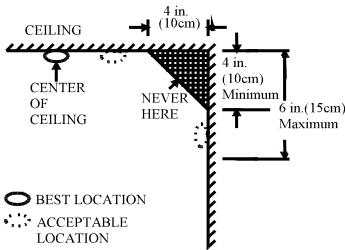
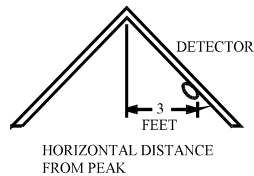

Figure 3: Recommendations for best and acceptable installation locations for installing smoke & heat detectors.
Figure 4: Recommended installation location for smoke & heat detectors in rooms with sloped ceilings or gables (slope >20 degrees).
- Install smoke & heat detectors as close as possible to the center of the ceiling. If it is not practical, install the detector no closer than 30cm to walls or corners (*see Figure 3*).
- If installing on the ceiling is not possible and state and local authorities allow the installation of the detectors on walls, assemble them on walls at a distance of 30cm – 50cm from the ceiling (*see Figure 3*).
- If your home has a sloped ceiling or gables, try to install the detectors 90cm from the highest point of the ceiling, measuring horizontally (*see Figure 4*).
- In areas with still air, such as under pointed roofs or in corners between walls and ceiling. Still air can prevent smoke from reaching the detector (see Figure 3 and Figure 4 for recommended installation locations).